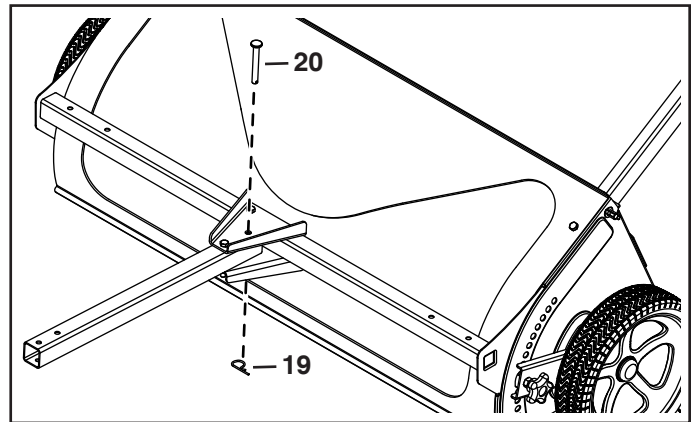

FIGURE 5
- Lock the drawbar into position by inserting a 3/8" x 3" hitch pin (20) into the center hole and securing it with a 3/32" cotter pin (19). See figure 5.